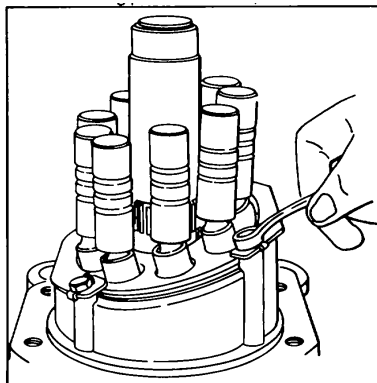

Figure 218.
16. Assemble the second of the two spacer assemblies. Install two spacers (22), one bearing plate (25), one clip (26), two new tab lock washers (21), and two hex bolts (27). See Fig 218. Torque four hex bolts (27) to 156 in lbs. Check clearance between each piston shoe and wear plate surface Clearance should not be less than .003 in nor more than .007 in Clearances of from .0015 to .003 are acceptable only if the rotating group spins freely by hand with no binding or tight spots Turn up four tab locks (21).